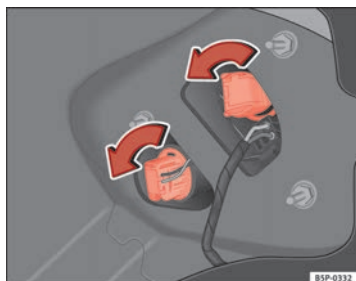

Fig. 186 Lights on vehicle body
- Turn the bulb holder to the left ⇒ Fig. 186.